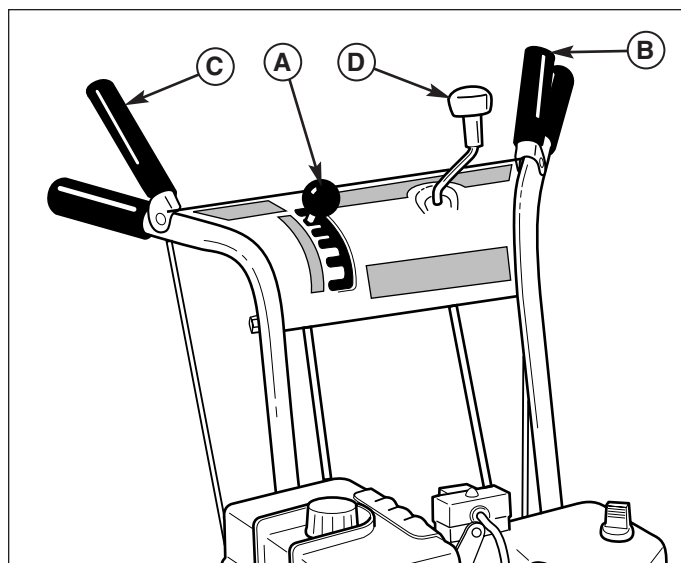

Figure 3. Operator's Control Position
A. Speed Selector - This lever (A, Figures 3 & 4) is used to set the ground speed of the snowthrower.
B. Traction & Free Hand™ Control - This control engages the traction drive as the lever (B, Figures 3 & 4) is depressed, and disengages the traction drive when the lever is released. When both levers are depressed the Free Hand™ control is activated. This allows the auger control to be released yet the auger remains engaged until the traction Free Hand™ is released. **NOTE:** Changing ground speeds must only be done while the drive control is in the disengaged (fully released) position.
C. Auger Control - The auger control clutch lever (C Figures 3 & 4), engages the auger drive when the lever is depressed and disengages the auger drive when the lever is released (unless Traction Free Hand™ control is also depressed-see above).
D. Chute Direction Control - The chute direction control (D, Figures 3 & 4), allows the discharge chute to be rotated to throw snow in the desired direction. Snow may be thrown at any angle from straight left, to straight forward, to straight right.
7. Check the drive control (B, Figure 3), and Auger Control (C) for proper operation. If adjustment is required, see the Service Section for procedures.
8. Check the chute direction control (D, Figure 3) for proper operation. The discharge chute should rotate freely in both directions. See the Service Section for adjustment procedures and troubleshooting.
9. Check the chute deflector (E, Figure 3) for proper operation. The deflector should pivot freely up and down when the chute deflector knob is loosened. If adjustment is required, see the Service Section for procedures.
11. Check the speed selector (A, Figure 3) for smooth operation. The control must move freely into each speed position gate and remain in position when released. If the speed selector does not move freely into all forward and reverse speed positions, contact your local authorized dealer for assistance.